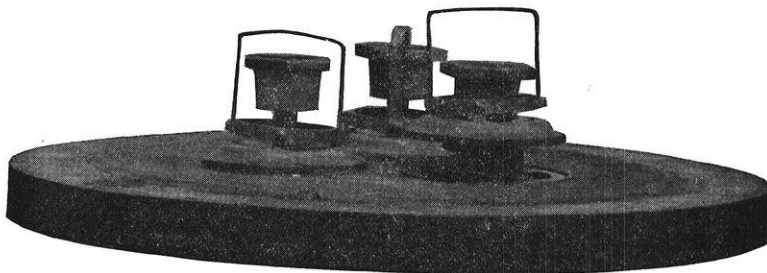

FIG. 3.
The valves were placed upon the seats as shown in Fig. 3, and were held open by rubber washers placed between the top of valve (A) and stud (B). To insure constant opening at all times, a block of wood was wedged between the top of the stud and the yoke (Y)